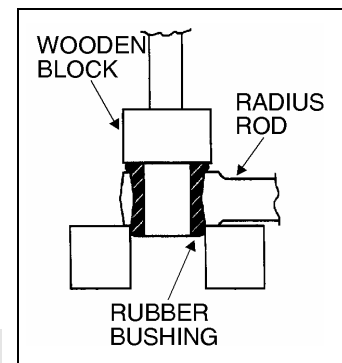

FIGURE 3
3. Place a wooden block on top of bushing and press on it manually (Fig. 3), use a hammer if necessary. Redo step 1 to 3 for the second bushing.